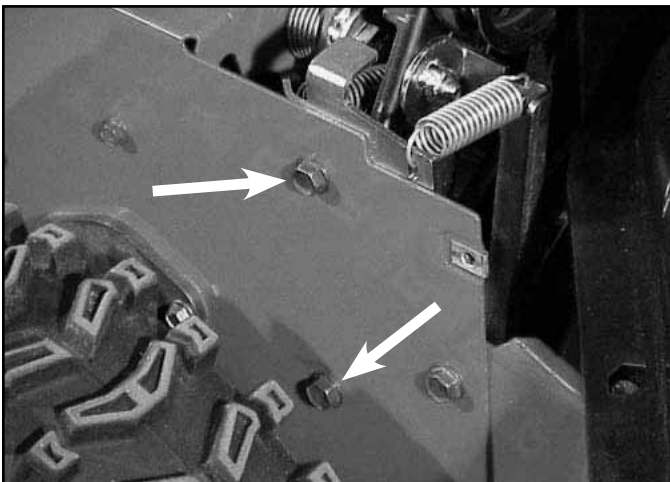

Fig 076
4. Remove 2 capscrews for the auger brake assembly (Fig. 076).